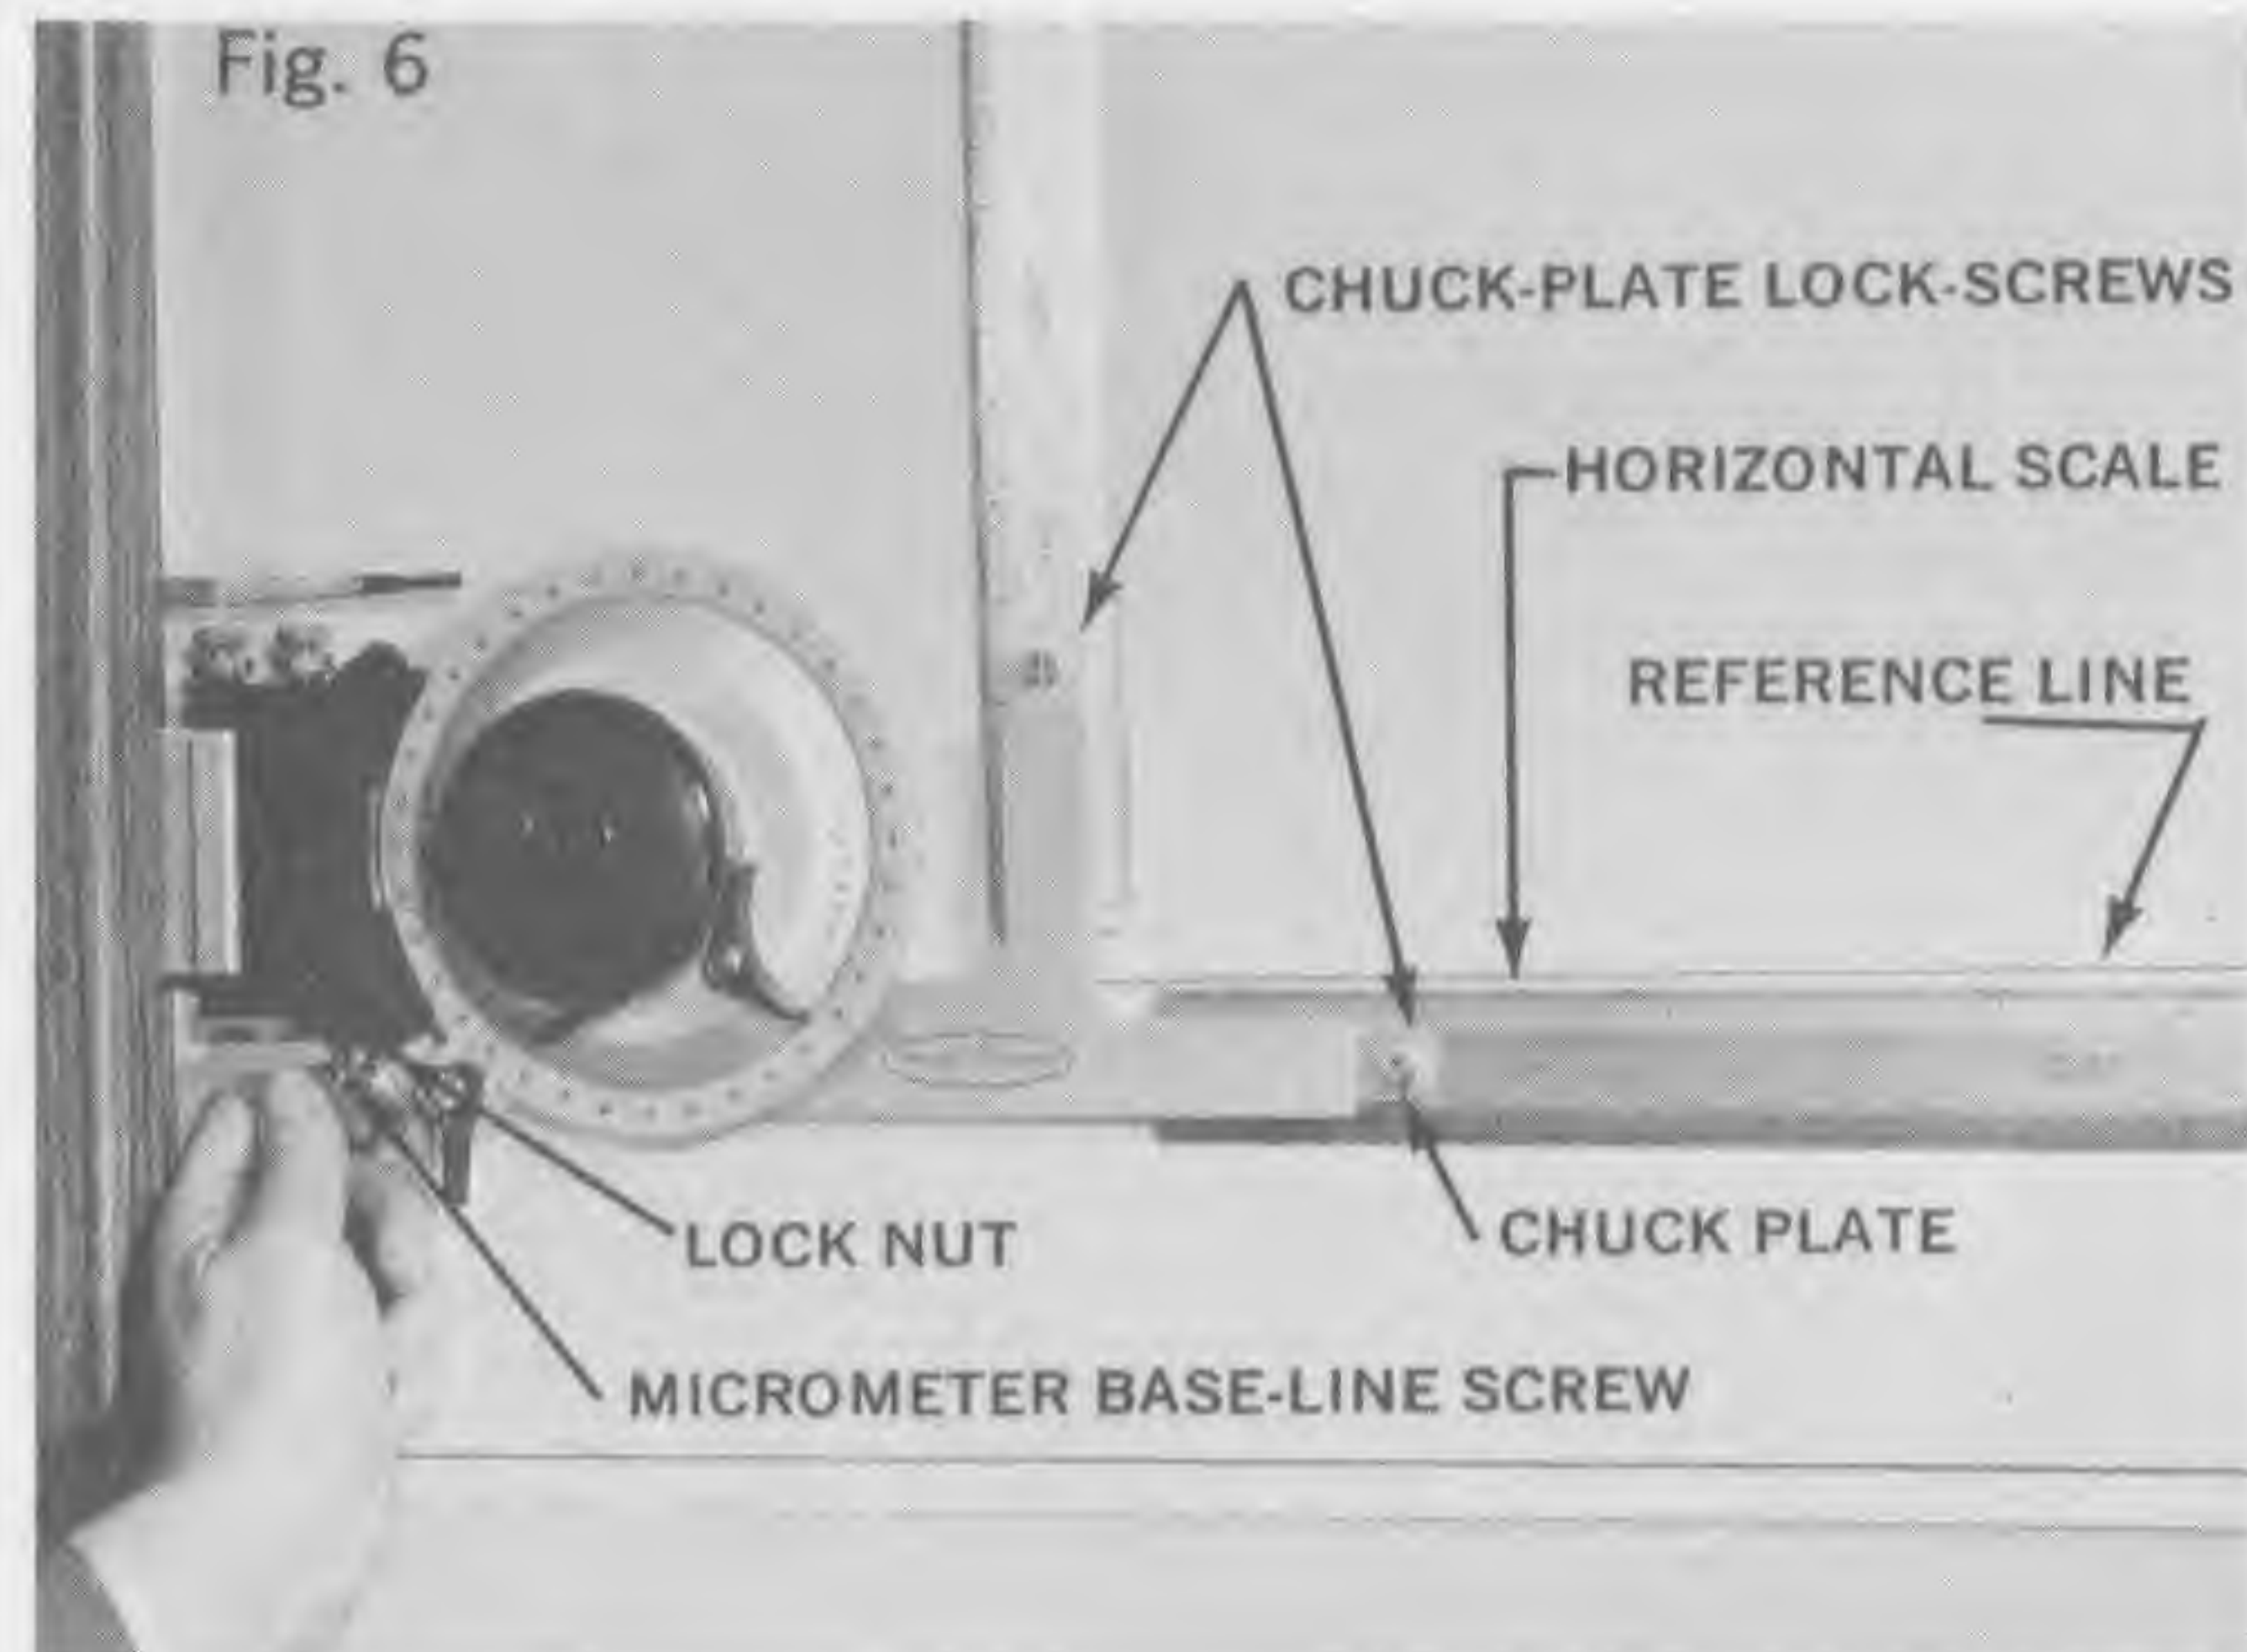
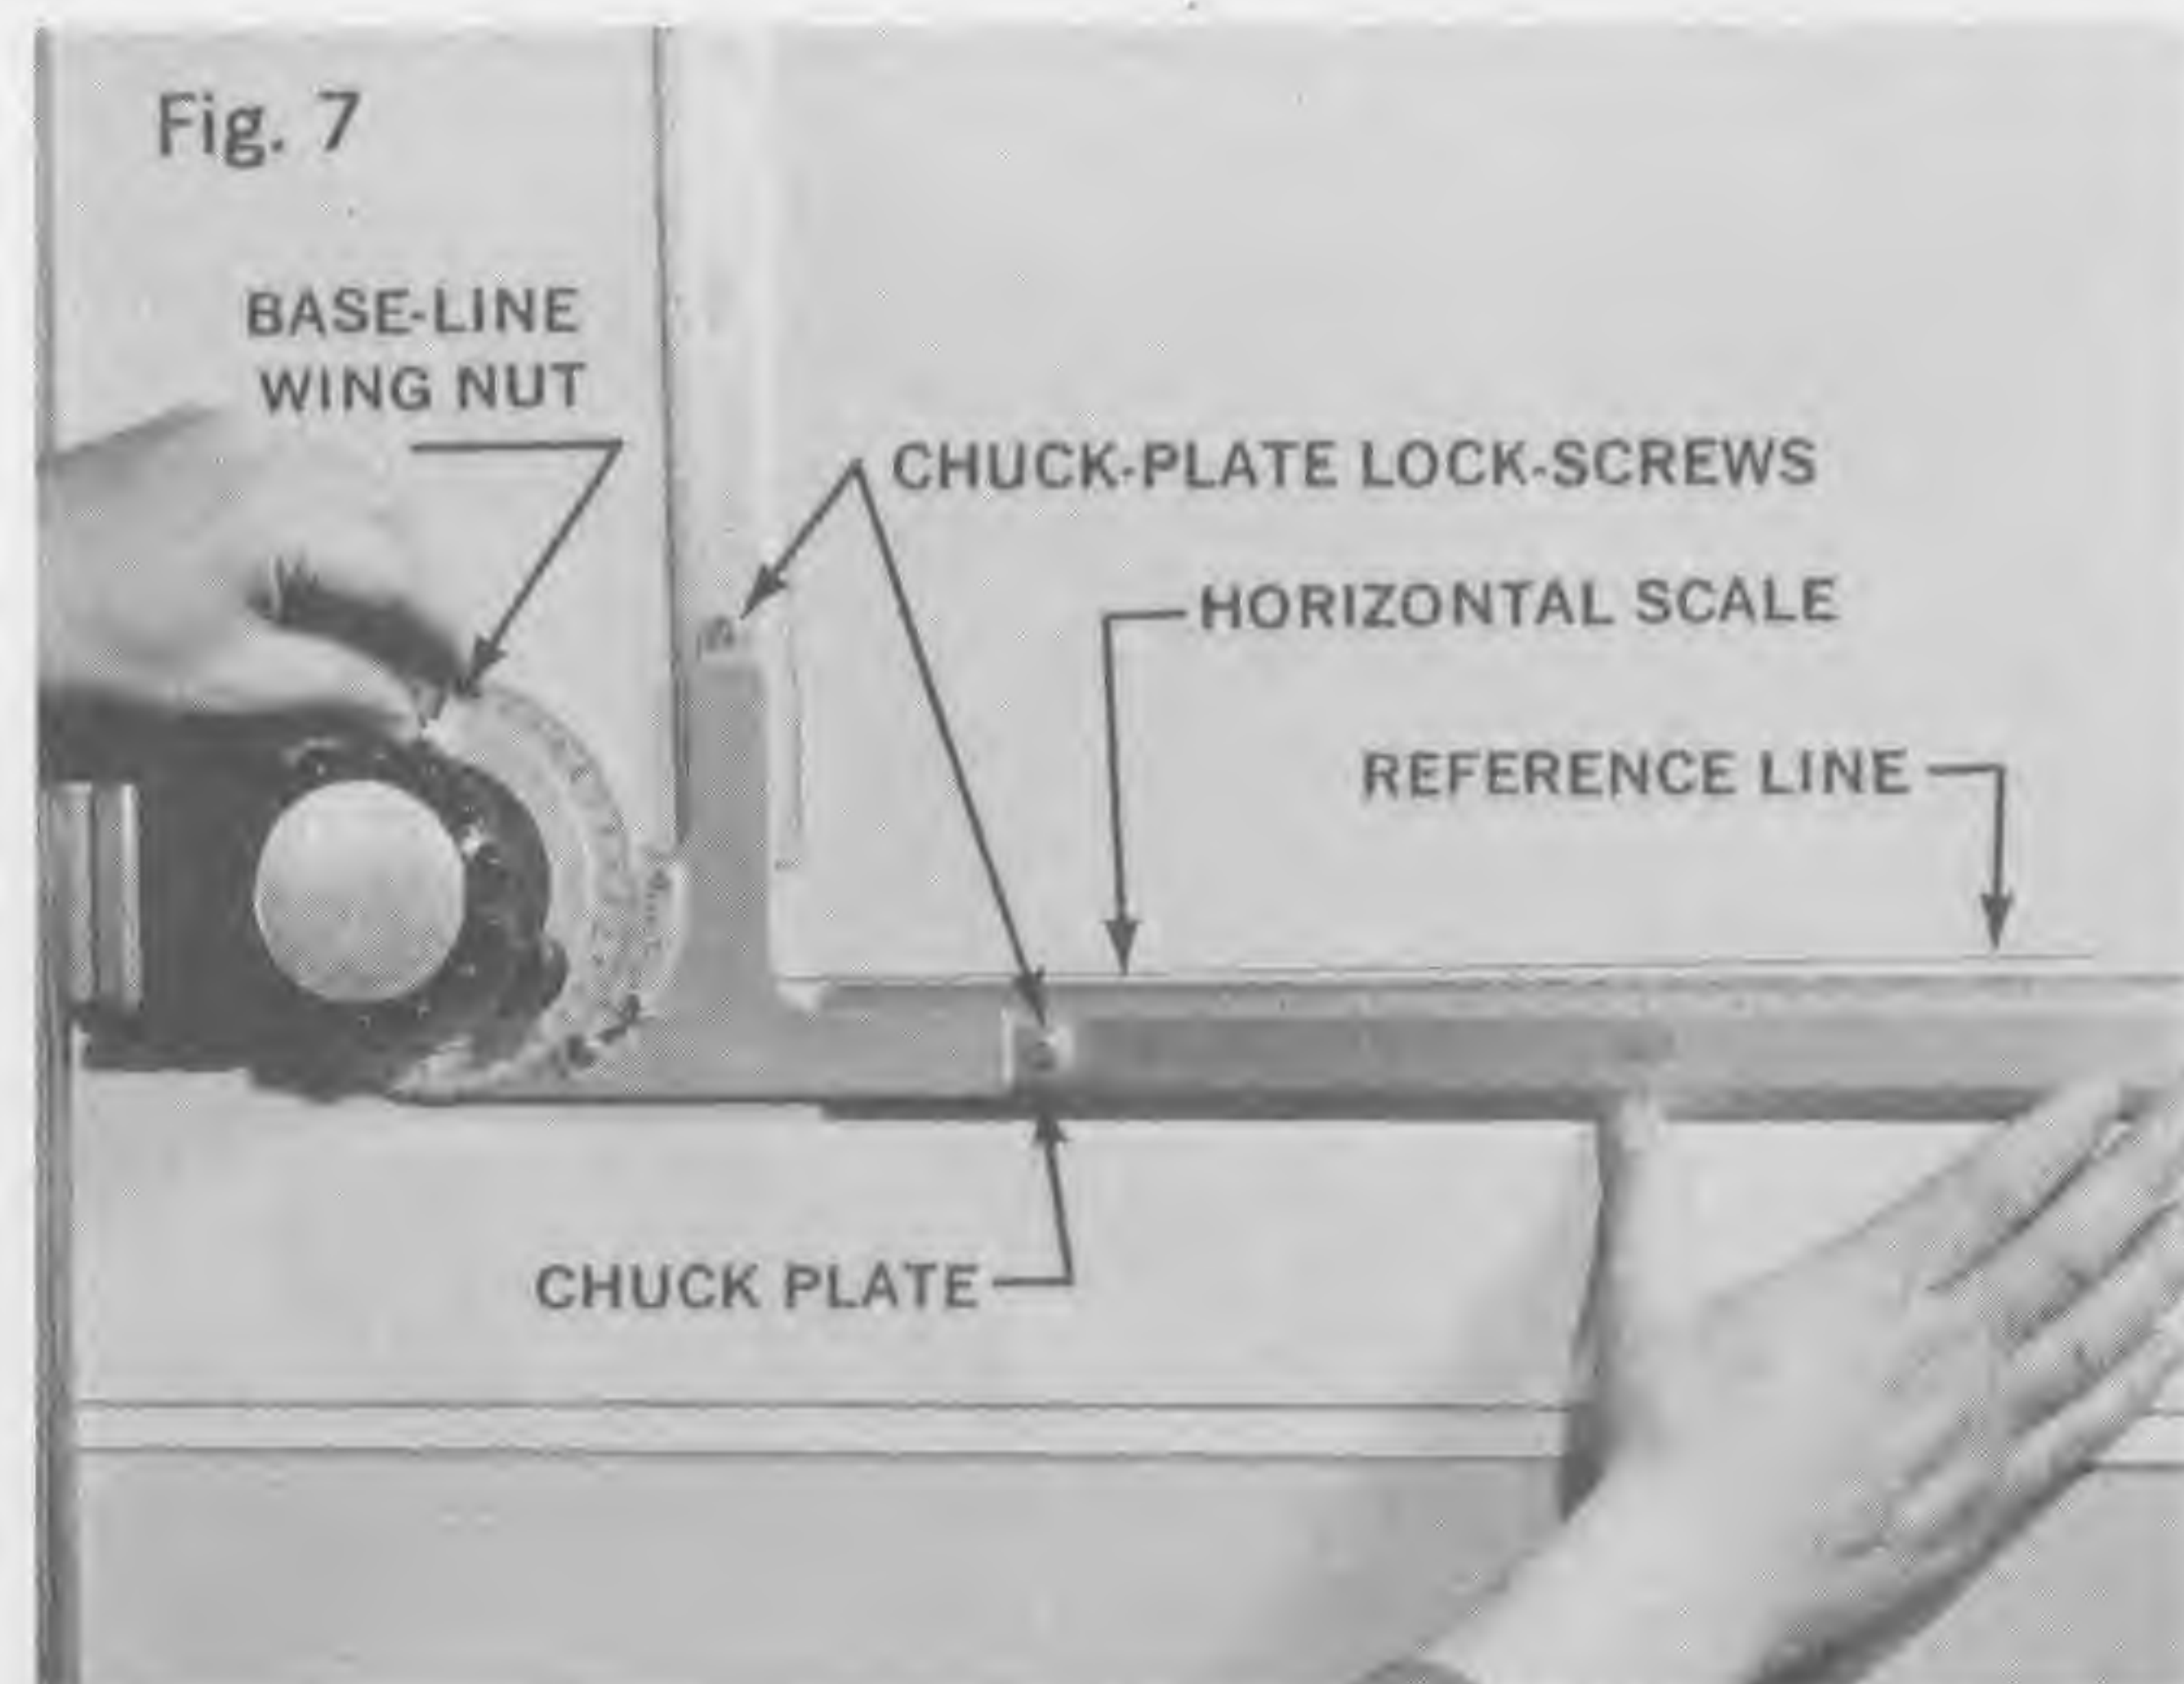

Fig. 6
Fig. 7
To insert a scale in the instrument, place it flat on the board in line with the scale chuck on the machine. Firmly press, but do not drive, the chuck-plate on the scale into the chuck (Fig. 6).
1. Tighten the screw nearest the end of the scale (flat-head screw) on each chuck plate, insert scales in base plate, and press them firmly into place. Release the inner chuck-plate lock-screw (Fig. 6) on the horizontal scale, set the scale near the center of its angular range of adjustment, and tighten the lock screw.
(MODEL 4 HEAD) Release the lock nut on the micrometer base-line screw and turn this screw until the scale is brought parallel to the reference line (Fig. 6). Tighten the lock nut firmly. (MODEL 2 and 3 HEADS) Release the base-line wing-nut and bring the scale parallel to the reference line (Fig. 7). Tighten the base-line wing-nut.